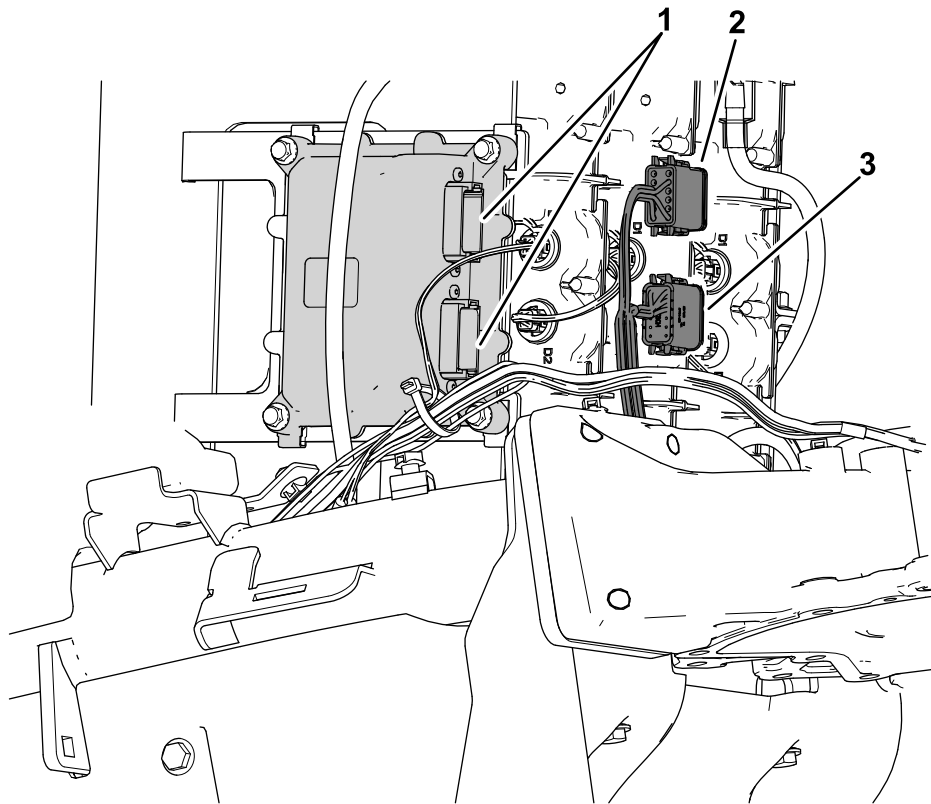

Figure 31
- Secure the existing machine wire-harness connectors labeled P02 and P03 to the TEC controller (Figure 31).